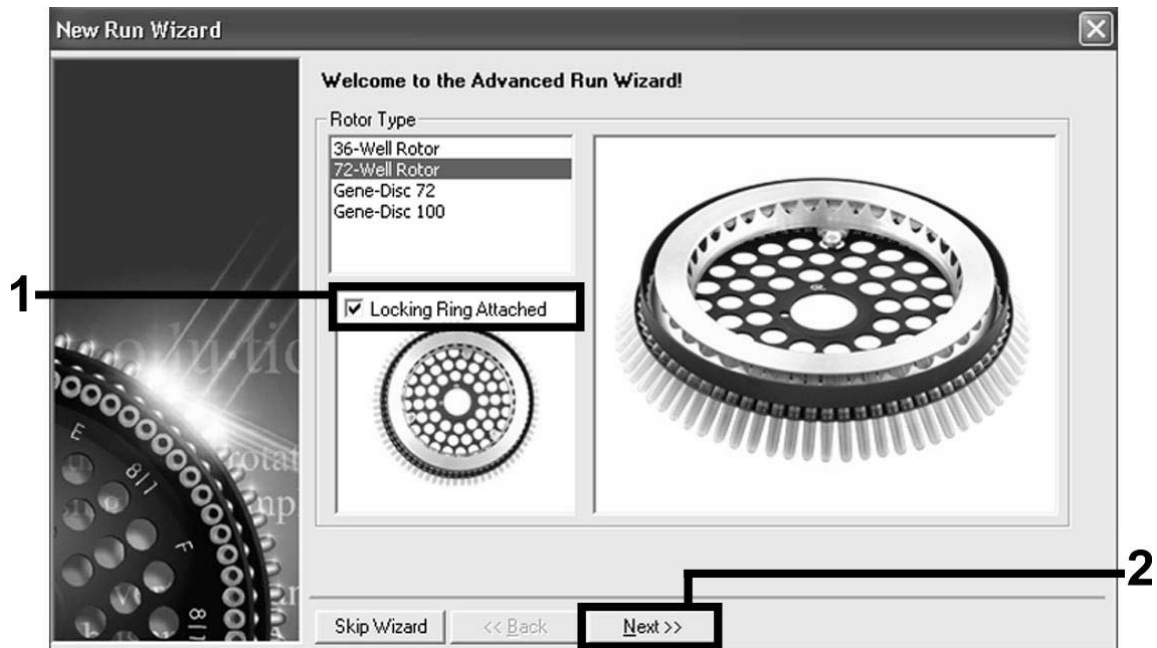

Figure 3. The “New Run Wizard” dialog box.
Setting the general assay parameters	Figures 3, 4, 5
6. First, open the “New Run Wizard” dialog box (Figure 3). Check the “Locking Ring Attached” box and click “Next”.